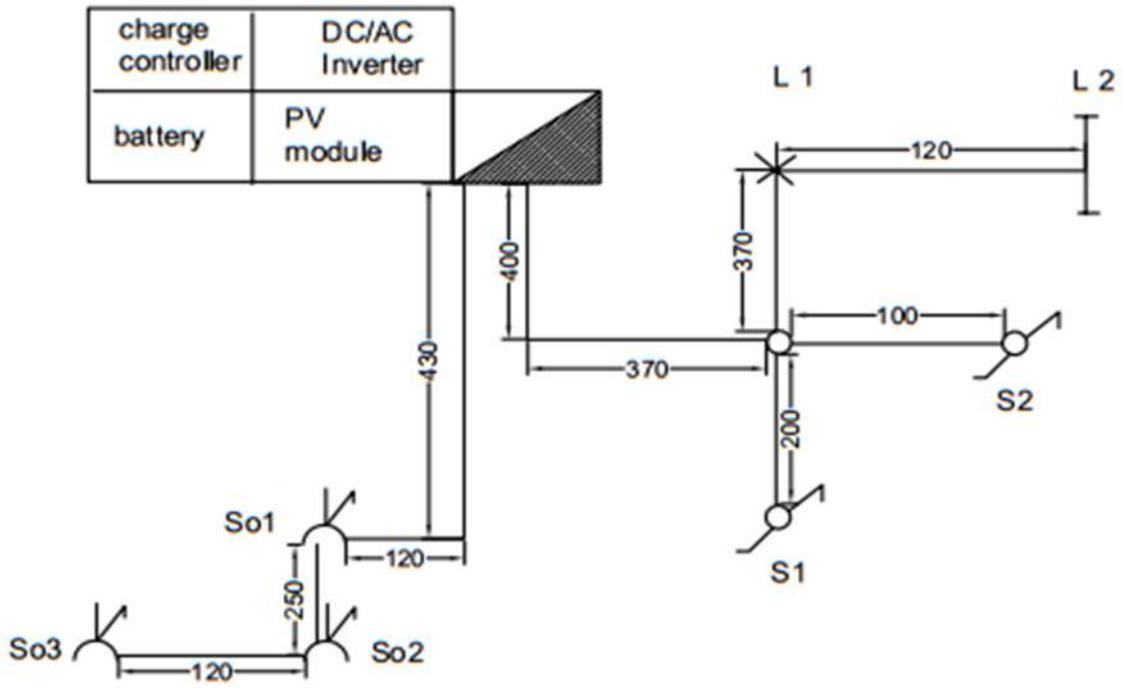

Figure 1
1. The above stated resources are for pre-installing solar PV system shown in Figure 1.
2. The circuit in Figure 1 should be pre-installed using PVC conduit wiring system such that;
3. The institution is to provide enough pre-installed circuits of Figure 1 based on the number of candidates.